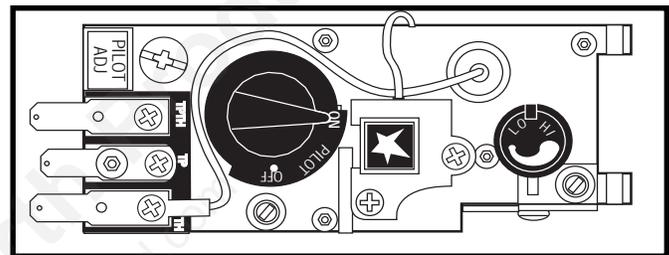

Fig. 21 UVS27R/Honeywell Control Valve in ON position. Use this position for remote switch operation.
7. **HONEYWELL:** Turn gas control knob counterclockwise  to "ON". (Fig. 21)